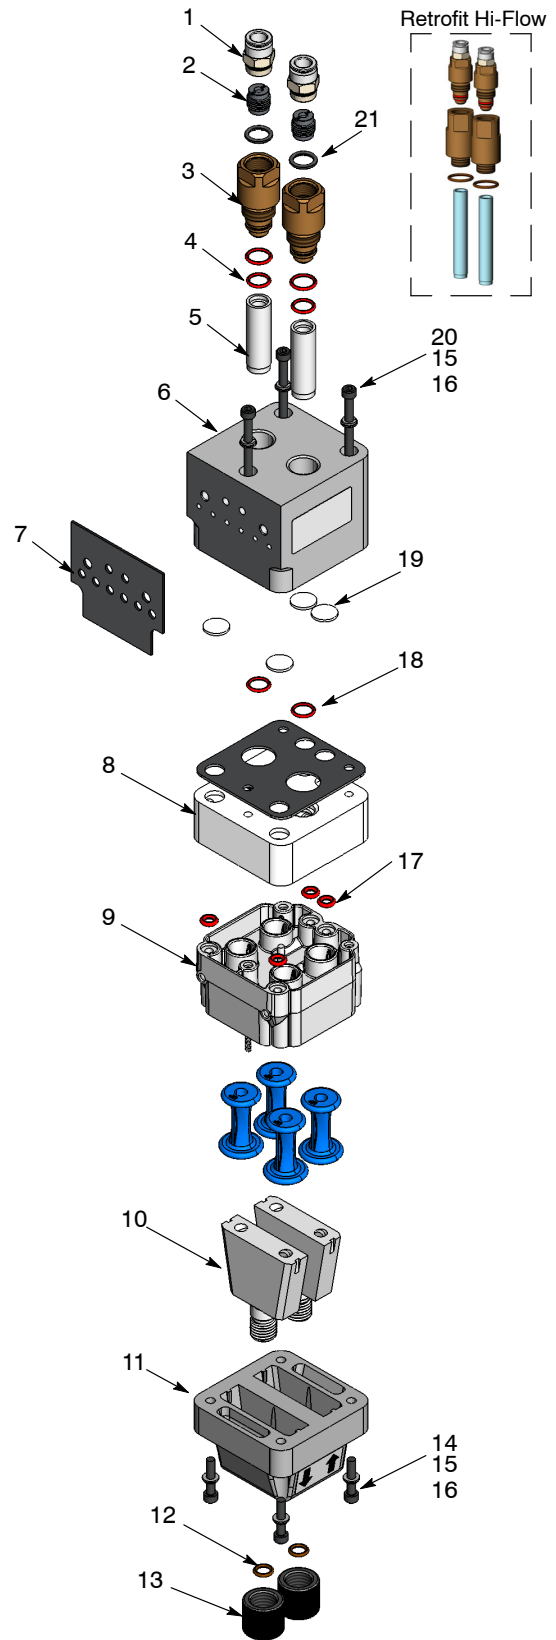
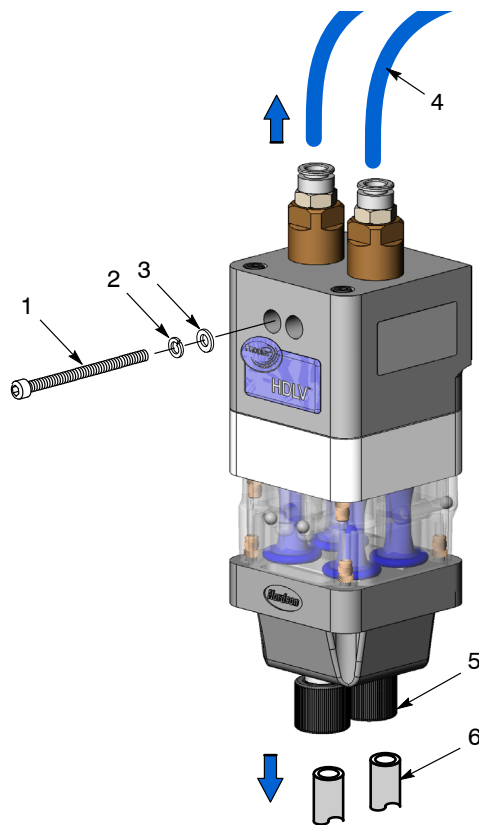

Figure 5 Disassembled Pump (All parts shown exploded for reference)
Figure 9 Reinstalling Pump
1. See Figure 5. Remove the fittings (1) from access plugs (3) to access check valves (2).
2. Remove check valves (2) from access plug using a flat blade screwdriver.
3. Inspect O-rings (21) in access plugs (3). Remove and replace as needed.
**NOTE:** O-rings (21) for inside access plugs (3) must be ordered separately.
4. Tighten the check valves (2) back onto access plugs (3) until they bottom out.
5. Pull the fluidizing tubes (5) off the access plugs (3).
6. Replace lower access plug O-rings (4).
7. Seat the new fluidizing tubes against the lower O-rings (4).
8. Replace gasket (7) on top manifold (6).
9. Place wear blocks (10) in new lower manifold body (11).
1. See Figure 9. Secure pump to pump panel using two screws (1), lock washers (2), and flat washers (3).
2. Reconnect the purge air lines (4) to the top of the pump.
3. Replace the tube nut O-rings (12) shown in Figure 5.
4. Using the tube nuts (5), reconnect the inlet and outlet powder tubing (6) to the bottom of the pump.